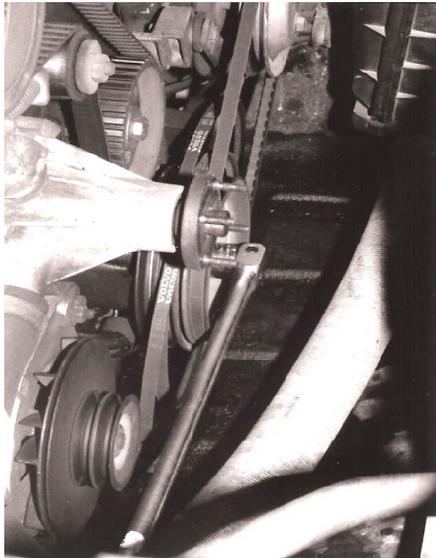

Figure 8. Turning the crankshaft to align the marks per Figure 9.
6. Use a 22-mm socket on the crankshaft pulley nut (**Figure 8**) to turn the crankshaft until the timing marks A and B are aligned as shown in **Figure 9\***.
**17. Check.** Slide two loose belts of **Figure 23** over steering assist or AC compressor and away from any moving parts. Keep loose clothing, long hair, and body parts away from moving parts! Start and run engine for 15 seconds, then stop. Re-examine alignment marks of **Figure 9** by rotating the crankshaft per **Figure 8**. Note that it will be almost impossible to line up the belt marks per **Figure 22**, but the pulley alignment marks per **Figure 9** should be easy to accomplish. Verify this. If not aligned, repeat **Step 14**. If good, your check is done. Start reassembly.
halves. The fasteners will be tight, but once the engine is started, they will become loose. Slowly tighten the bolts (in diagonal fashion) a few turns and then turn the crankshaft a half revolution (using the 22-mm socket wrench of **Figure 8**) to free the belt. Repeat this process until the fasteners are completely seated and tight (5-6 ft-lbs).
After 500 miles, pry the rubber tensioner plug (as shown in **Figure 4**) out from the timing belt cover and loosen the 17-mm tensioner nut. With car in neutral, as shown in **Figure 8**, use the 22-mm socket to turn the crankshaft clockwise (as seen from front of engine) one 360-degree crankshaft rotation to tighten the belt. (No, you don't have to be at top dead center, as some manuals claim.) Tighten the tensioner nut. (Be careful when reinserting the rubber plug! If it falls into the hole, you'll have to disassemble almost everything to retrieve it.) You're all done.